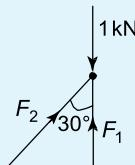

Figure 6.43
- The value of F_1 in Figure 6.43 is:
3. The value of F_2 in Figure 6.43 is: